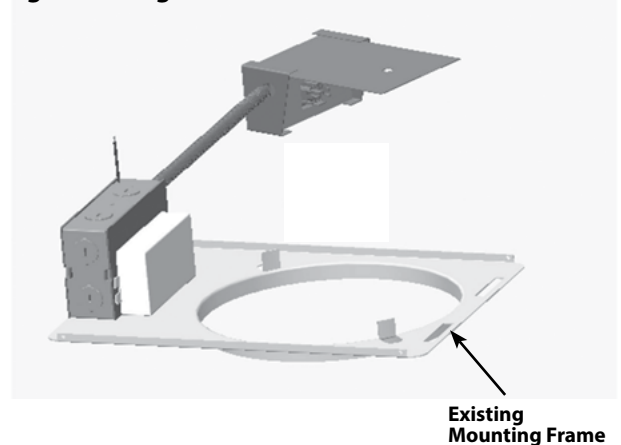

Fig.2. Remove/ Detach all obstructions
2. Remove/ detach existing reflector, **Socket Cap, Yoke** or any obstruction above ceiling within **Existing Mounting Frames** as shown in **Fig. 2** to allow installation of the DLED8 and to have access to **Junction Box**.